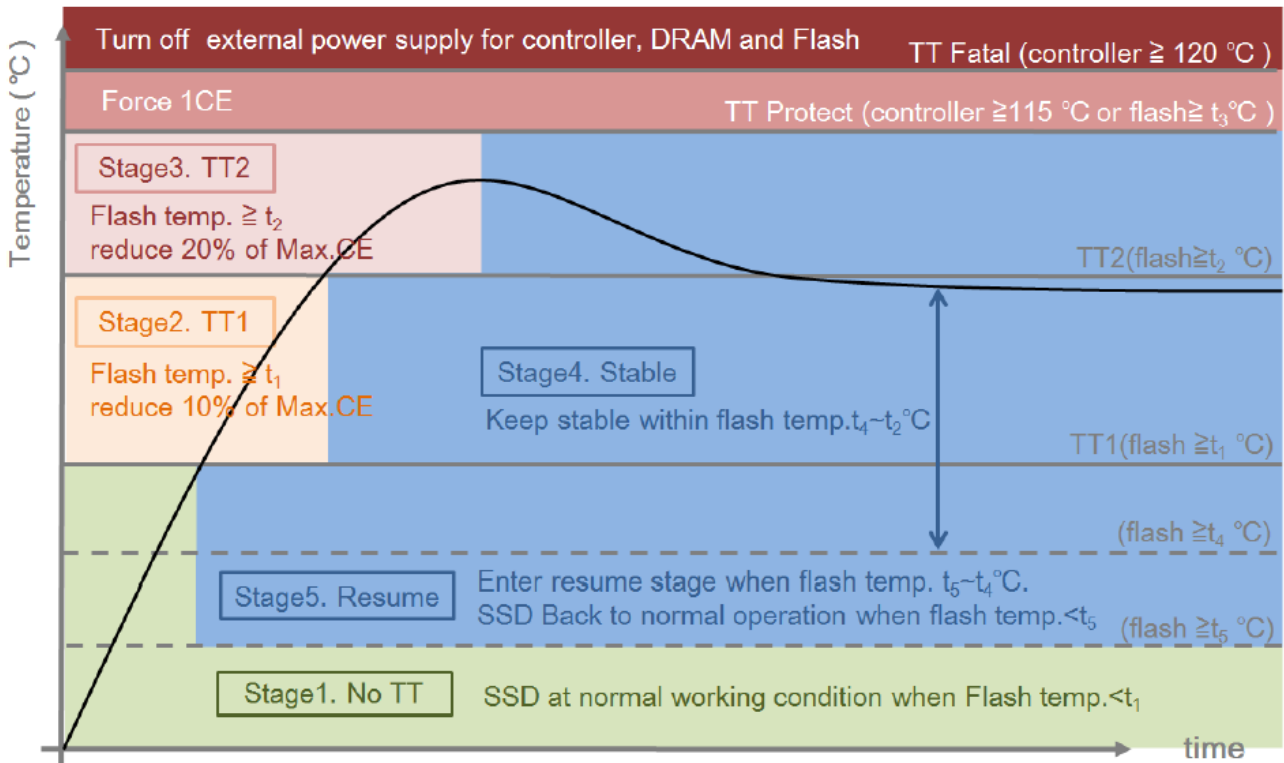

Figure 2-1 Thermal Throttling Schematic
1. TT shown on Figure 2-1 means "Thermal Throttling".